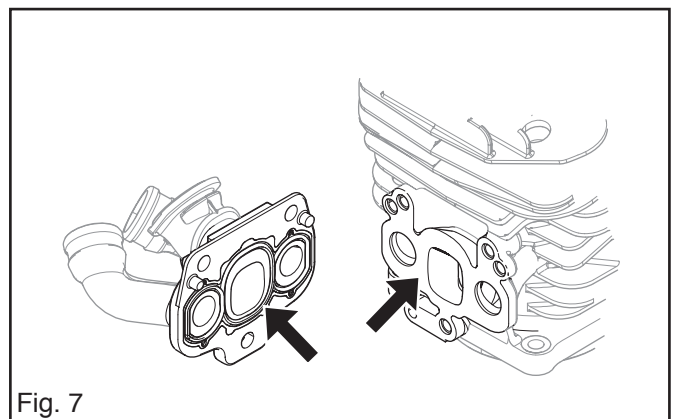

Fig. 7
7. That the intake manifold and its rubber seals are undamaged. See fig. 7.